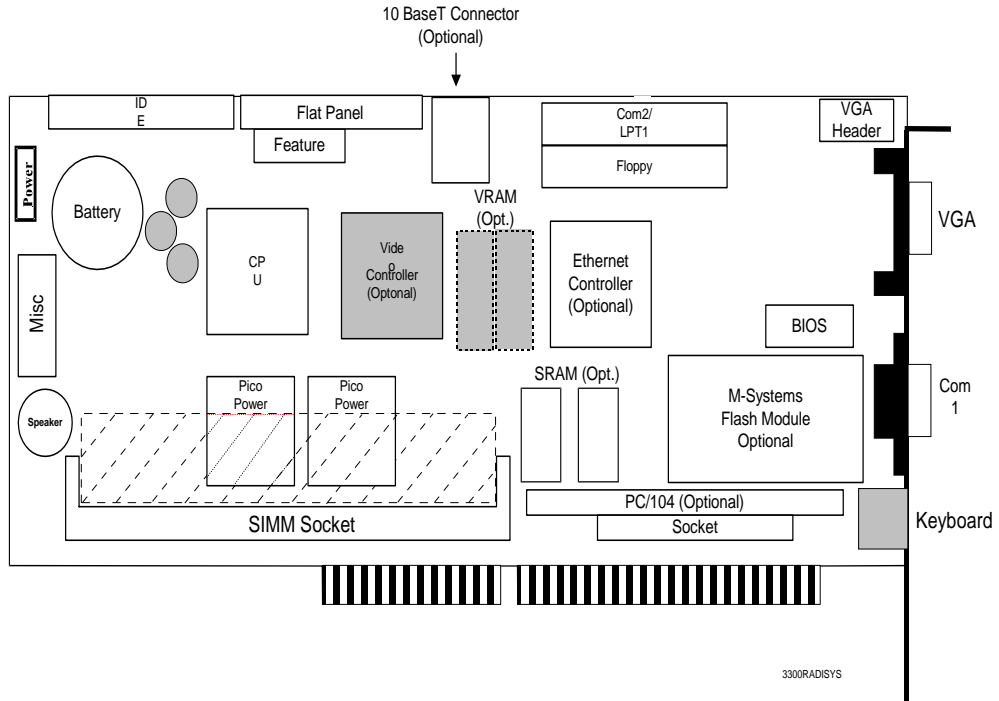

Figure 3-41, Single-Board Computer Layout
8. Plug the 8-pin, RJ-45 connector into the single-board computer. Refer to **Figure 3-41**.